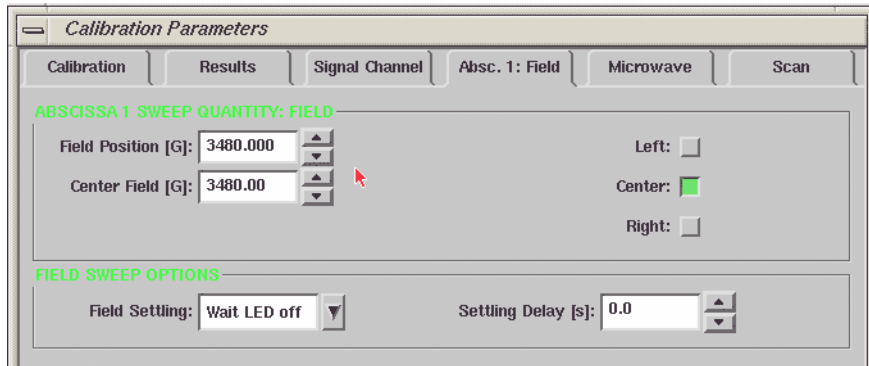

Figure 2-10 The Absc.1: Field folder of the Calibration Parameters dialog box.
13. **Center your DPPH spectrum in the display.** Click the Absc.1: Field tab. (See Figure 2-10.) Arrange the Calibration Parameters window and the Setup Scan dialog box so that you can see both of them at the same time. Make sure that the Center box is selected (green). Adjust the Center Field value by entering a field value or clicking on the up and down arrows until the signal appears centered in the Setup Scan window. For a microwave frequency of about 9.8 GHz, DPPH resonates at 3500 Gauss. Reducing the Sweep Width in the Setup Scan window can help you to center the signal.